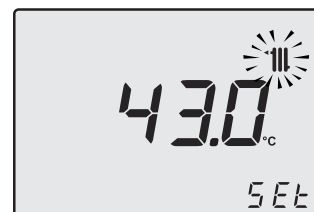

Fig. 2.9
- The heating hot water flow "set" temperature and the symbol  flash. The background of the display is illuminated (Fig. 2.9).